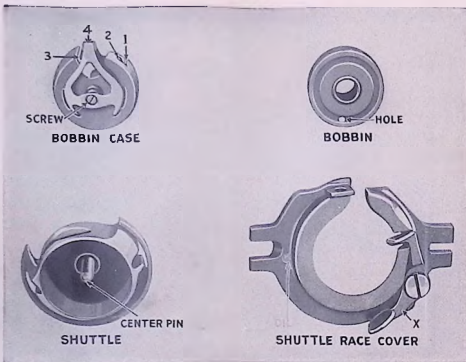
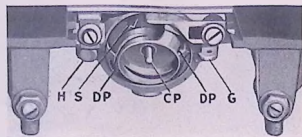

Figure 6
Figure 8
The hole in the center spindle inside the bobbin case fits over the center pin of the shuttle, as shown in Fig. 6.
First, remove the hand hole cover plate and tip head back on its hinges. *Next*, remove bobbin case as already explained. *Next*, turn the hand wheel (clockwise) until the point of the needle is just entering needle plate hole. Then press rear end of latch G, shown in Fig. 8. This will release the shuttle race cover (Fig. 6) so it may be readily removed from under pin H. *Next*, take hold of the center pin in shuttle (CP, Fig. 8) and it can be readily removed **WITHOUT FORCE**.
Turn the hand wheel until the point of the needle is just entering the needle plate hole. With the thumb and first finger of the left hand, hold the shuttle by the center pin (CP, Fig. 8) so the centers of the slotted holes directly opposite each other in the outer edge of the shuttle, are exactly in line with the driving pins (DP). When properly lined up, the **SHARP** point of shuttle will be almost directly over the tail of the arrow (S). It is imperative that the shuttle be properly placed in the race, and it must never be **FORCED** into position. When the shuttle is in position replace shuttle race cover by slipping the fork at left side under pin (H) and push right side back over latch (G) which will snap back to its holding position.
The small screw in center of the bobbin case (Fig. 6) regulates the tension on the lower thread. To *increase* tension tighten the screw; to *decrease* tension, loosen it. In either event only turn this screw a little bit at a time.
If the machine should be run without sewing and thread gets in the shuttle race making the machine run heavy, take out bobbin case and run the machine in the wrong direction, turning wheel by hand, and it will cut the thread out; or remove shuttle and clean the race and driving pins. (See Fig. 8.)